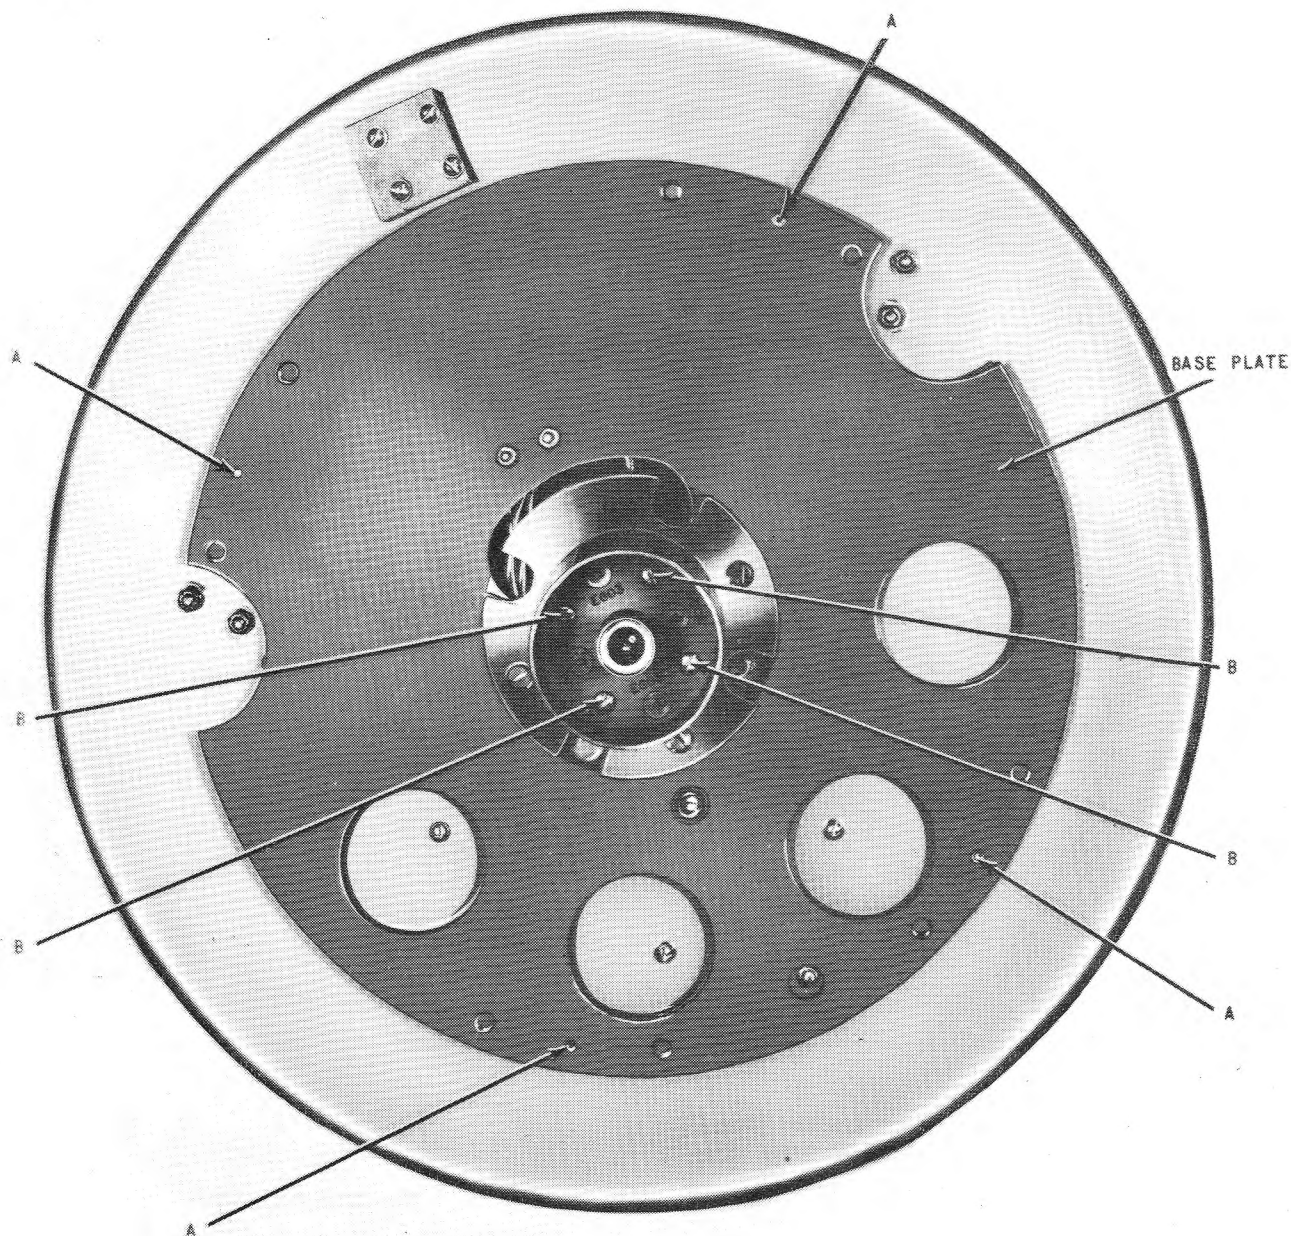

Figure 6-6. Antenna Assembly AS-655/ALA-6, Slip-Ring Brushes (Typical)
6-31. REPLACEMENT OF ANTENNA SLIP-RING BRUSHES. This paragraph describes the replacement procedure for the brushes in AS-655/ALA-6 and AS-656/ALA-6 which contact the slip rings in the Antenna Coupler to carry the dc control voltage to the antenna-polarity relay. Both Antenna Assemblies have the same brush assembly, relay, and coaxial switch. These are illustrated in figures 6-6 and 6-7 for AS-655/ALA-6 which is typical for both, except that the AS-656/ALA-6 is of more open construction and has no cover plate. When the brushes are worn or damaged they should be replaced according to the following steps.
Step 1. Remove the inspection plate as shown in figure 6-6.
Step 3. Release the four screws marked A in figures 6-6 and 6-7 and remove the entire relay-switch-brush assembly mounted on the base plate.
Step 5. Release the four screws marked B in figure 6-6 which hold the brush assembly to the hub, and remove the brush assembly.
Step 2. Release the four screws marked B in figure 6-6 which hold the brush assembly to the hub, and remove the assembly.